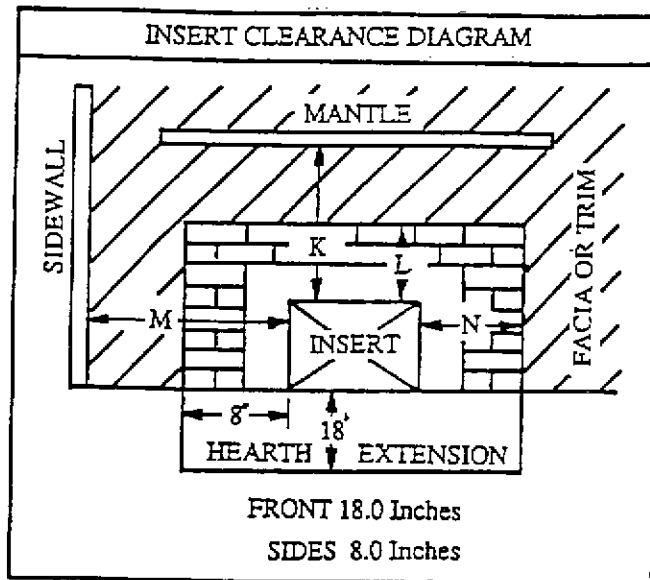

FIGURE 8.
**NOTE:** For clearances, use clearance diagram (Figure 8) or the clearance diagram on the safety label attached to the back of the appliance.